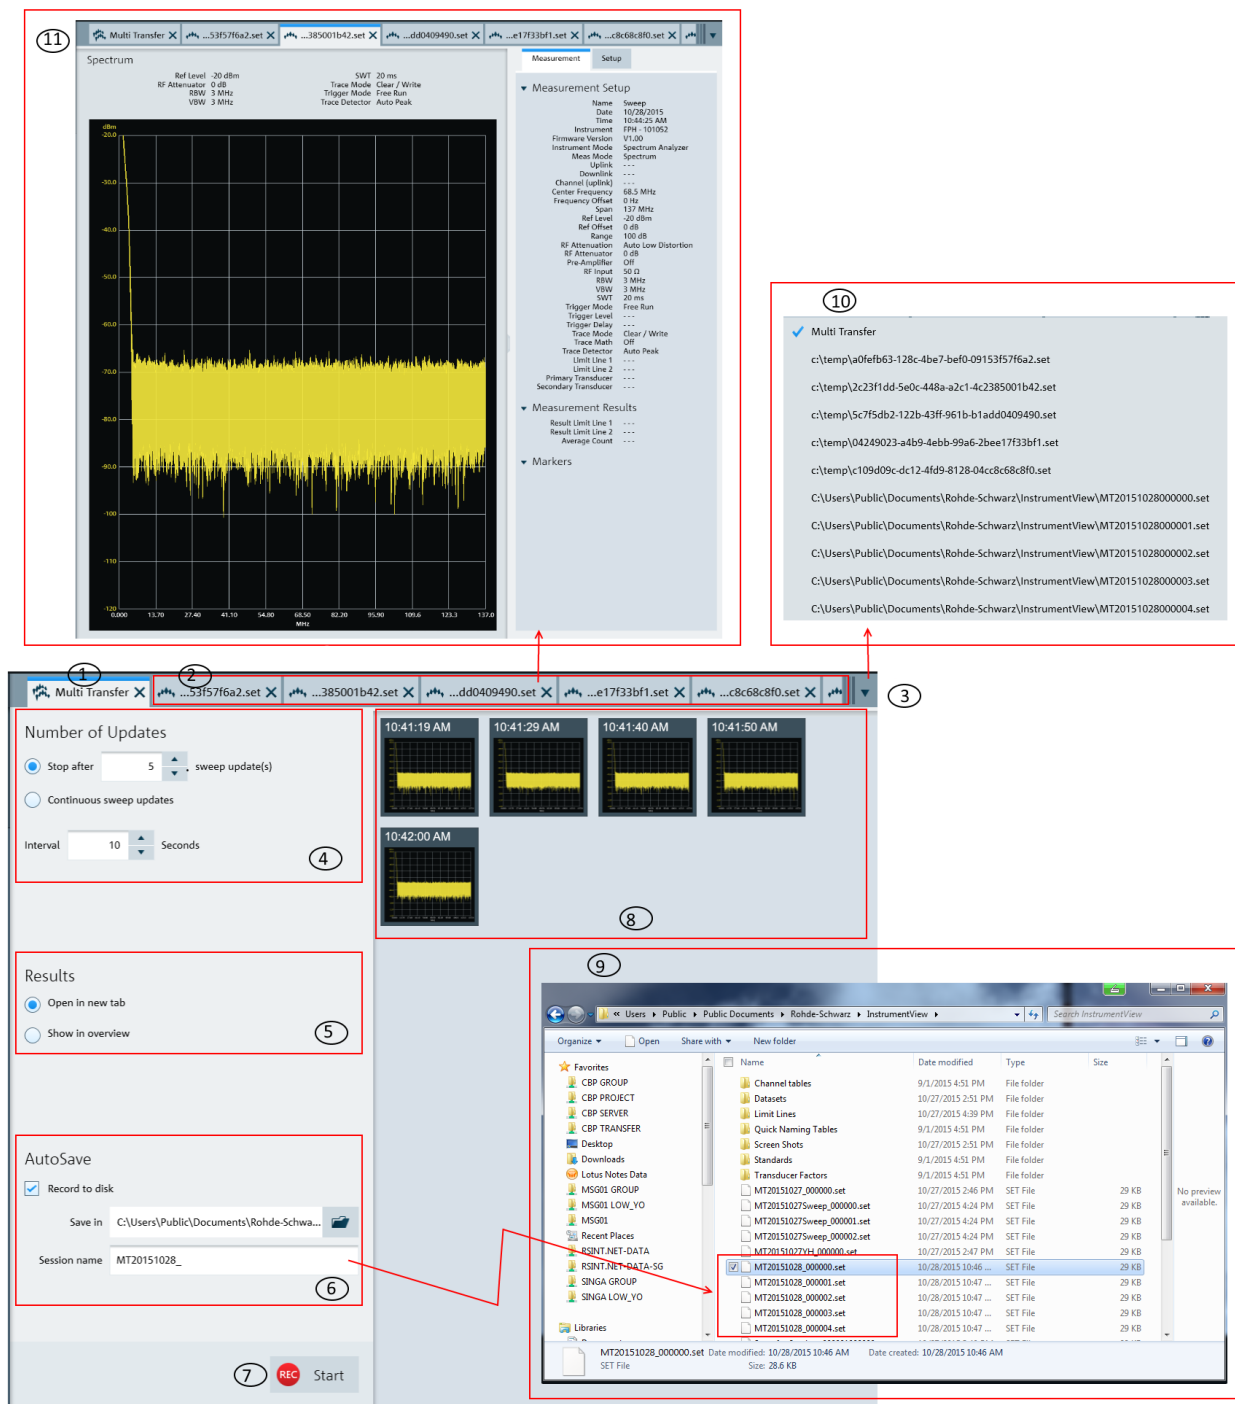

Figure 4-13: Multi-transfer dialog
"View" 	View the details of the trace measurement file. For viewing, see Chapter 4.3, "Save Instrument" , on page 21 for a list of file format supported. When a file is selected to be viewed, a tab is displayed in the header bar of the screen layout. See index 11 of Figure 4-13 .
The "Multi Transfer" menu allows you to capture and save trace measurements from the instrument. See Figure 4-13.
- 2 = Measurement results tab (see index 11 in Figure 4-13)
- Display the trace measurement in the overview area. See index 8 in Figure 4-13.
- Display the individual trace measurement result in the "Tab header bar". See index 2 in Figure 4-13.
See index 11 in Figure 4-13.
See index 9 in Figure 4-13 to view the trace measurements captured in the file directory.
Depending on the setting in the "Results" section (see index 5 in Figure 4-13), the trace measurement updates can be displayed in the overview area (see index 8 in Figure 4-13) or individually displayed as a new tab in the tab header bar (see index 2 in Figure 4-13).